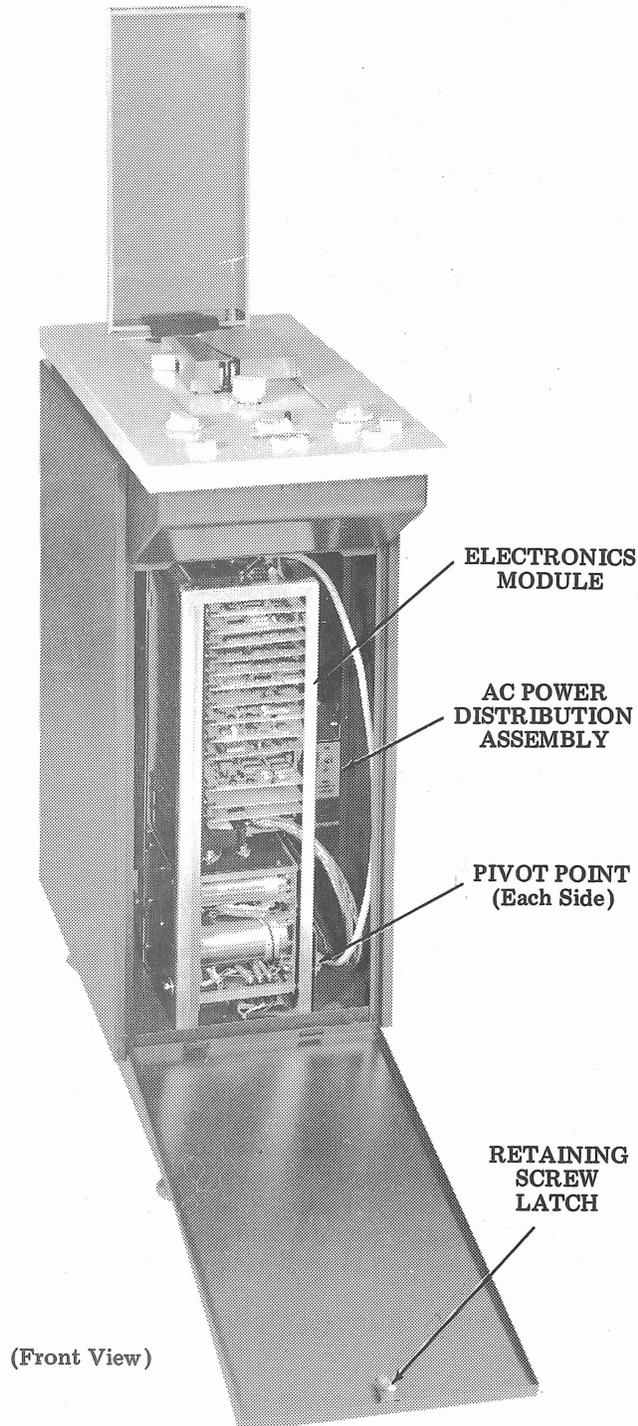

Figure 4 - Module Compartment of Cabinet Used With CDT or Other Parallel Device
(1) Turn the retaining screw at the top of the front panel until it releases from the cabinet. Pivot the panel forward (Figure 4). Lift the panel from the cabinet.
(2) Carefully tip the cabinet and remove the module retaining screw, lockwasher, and flat washer from the underside of the cabinet. (These are only required for shipment, and may be discarded when the tape set is installed.)
(3) Raise the cabinet upright and loosen the two screws that hold the module in the slots of the two side brackets.
(4) Pivot the module forward so the circuit cards and other parts are accessible.